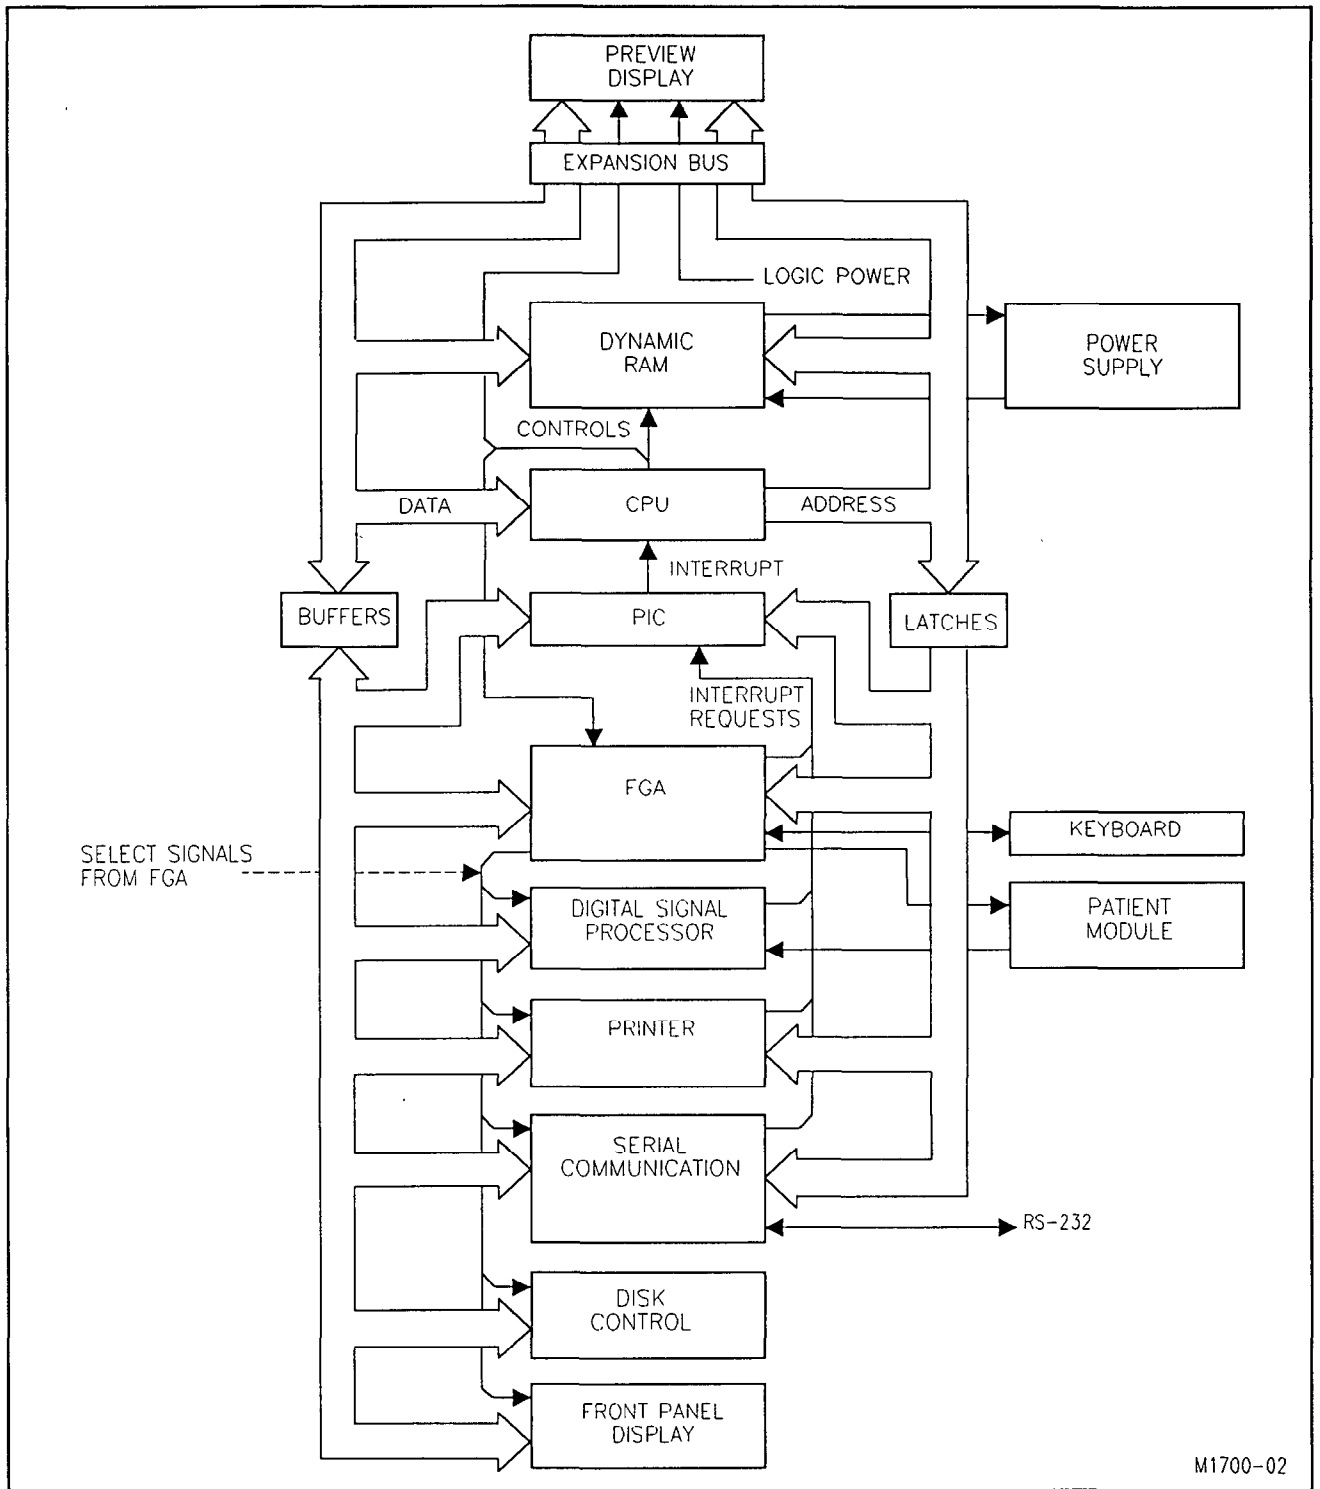

Figure 5-4. CPU Assembly Block Diagram.
The block diagram in Figure 5-4 shows these circuits and how they interconnect.
**CPU** The microprocessor used in the CPU is the Intel 80376®, a 32-bit processor with a 16-bit data bus and 24-bit address bus. The CPU address and data buses go to the DRAM block, the system expansion connector, and to latches and buffers, as shown in Figure 5-4. Address latches buffer the address signals in order to drive a larger number of devices and latch the addresses. Data buffers (transceivers) allow the CPU to communicate with a larger number of devices, and ensure that the CPU data bus is driven at the proper times. The programmable interrupt controller (PIC) accepts and prioritizes interrupt requests and generates the interrupt signal to the microprocessor.